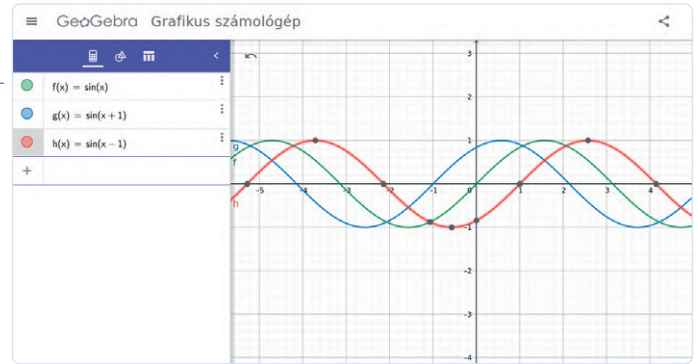

Figure 6: Despite having identical frequency and amplitude, these waveforms are not identical.
The sampling operation we have just performed delivers only real (R) data, but this does not make the mathematician happy. One reason for this is that there is no 'defined' trigger or starting point for the signal. Although the sine wave signals as shown in **Figure 6** have the same frequency, from a mathematician's point of view they have different phases. Our FFT operation expresses this in the returned complex number values that express both the power and the phase shift of the respective components. As a result, the three sine waves signals shown would deliver different R and I values although they all have the same frequency.